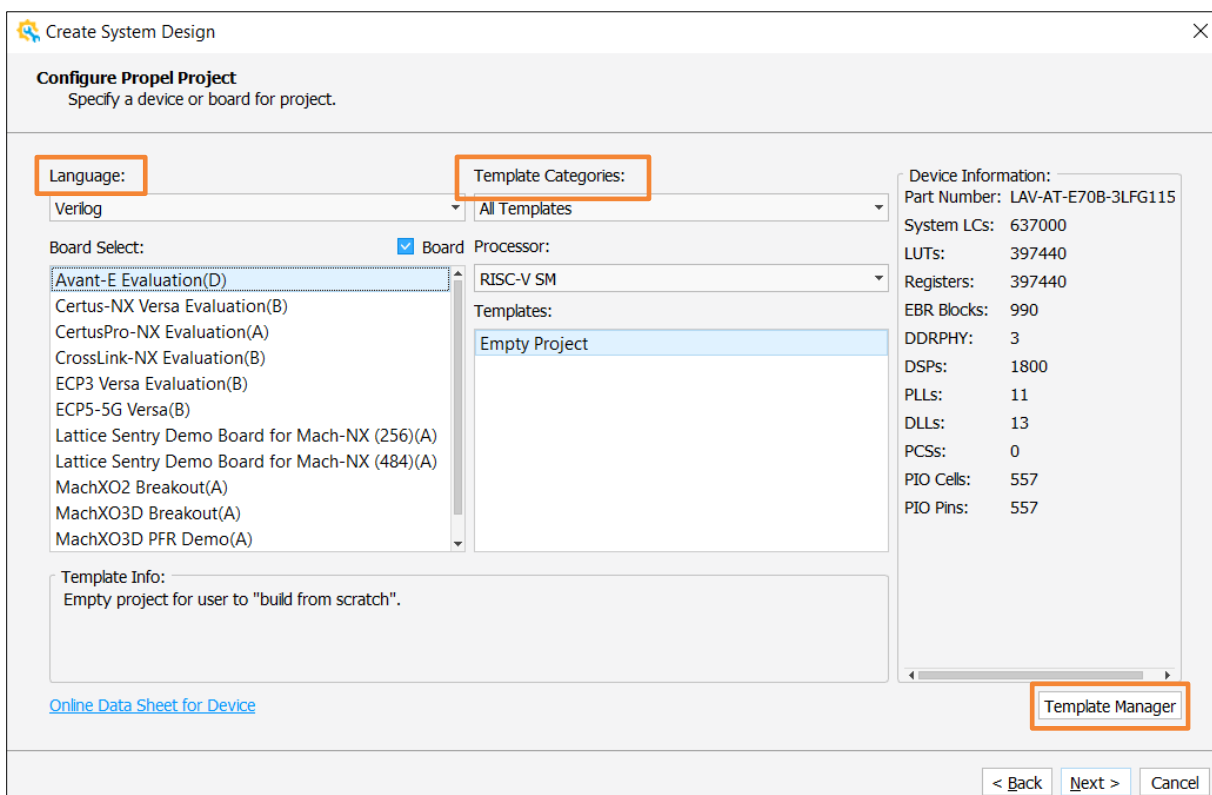

Figure 2.34. Specify a Board for Template SoC Project (2)
- The Configure Propel Project wizard is shown in Figure 2.34. From the **Board Select** area, select the desired board.